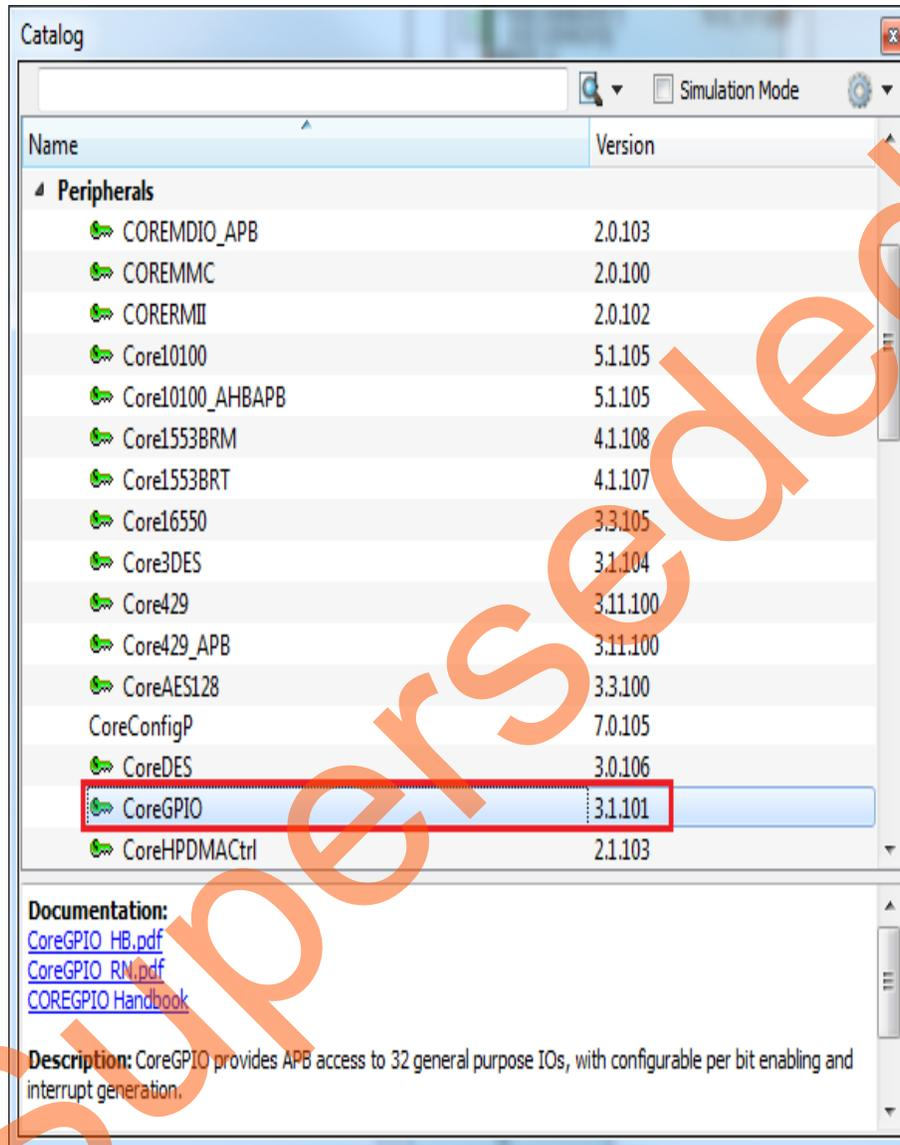

Figure 22 • IP Catalog
1. Expand the **Peripherals** category in the Libero SoC **Catalog** as displayed in Figure 22.